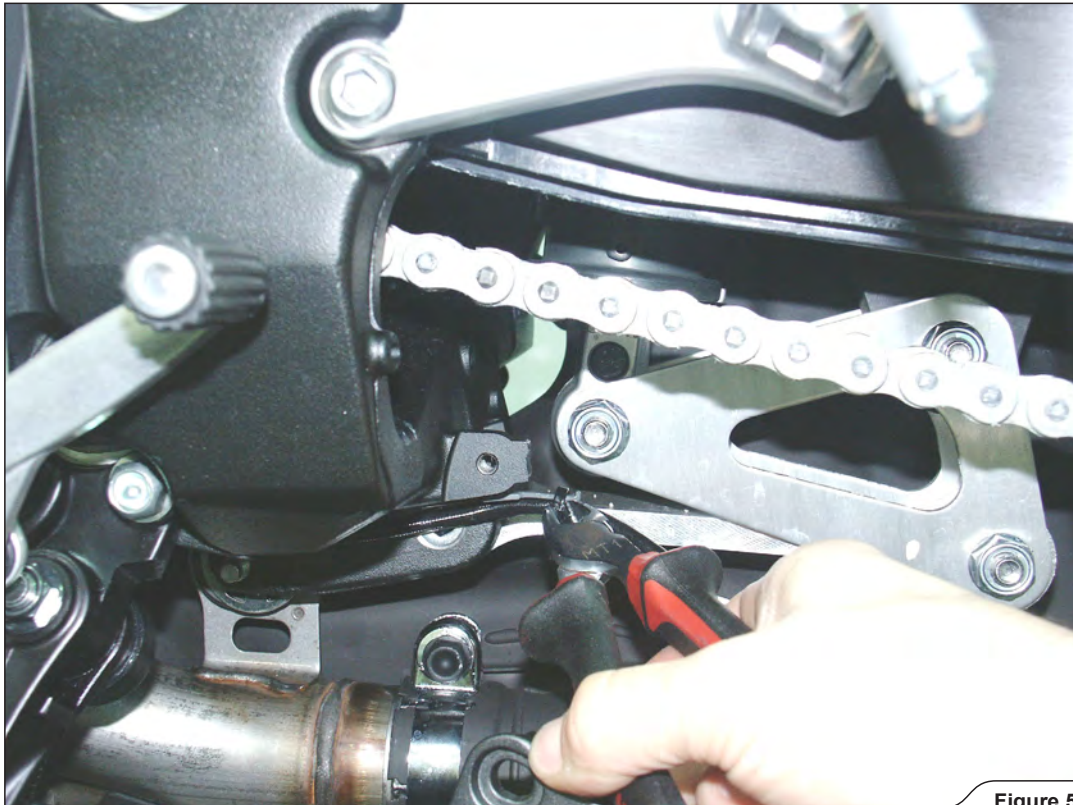

Figure 5
4. Cut the plastic tie which holds the lambda sensor's cable, than unscrew the lambda sensor (**Figure 5, 6**).